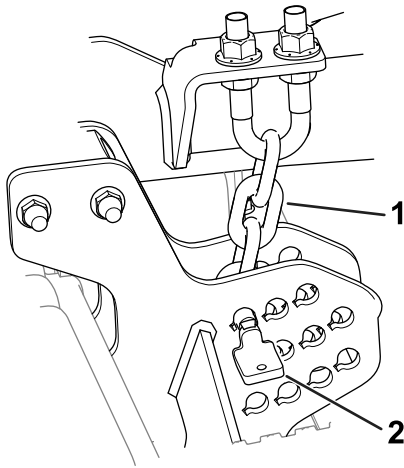

Figure 9
1. Remove the pins that secure the height-of-cut chains to the rear of the cutting unit (Figure 9).
The pin should be installed in the lowest height-of-cut chain link. The chain should hang straight down (Figure 9); it should not be twisted.